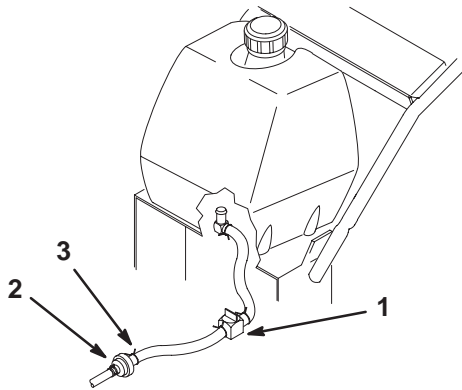

Figure 40
3. Close the fuel shut-off valve in fuel line (Fig. 40).
4. Squeeze the ends of the hose clamp together, and slide it up the fuel line away from fuel filter (Fig. 40).
5. Pull the fuel line off the fuel filter (Fig. 40).
3. Close the fuel shut-off valve (Fig. 40).
4. Squeeze the ends of the hose clamps together and slide them away from the filter (Fig. 40).
7. Open the fuel shut-off valve at the fuel tank (Fig. 40).